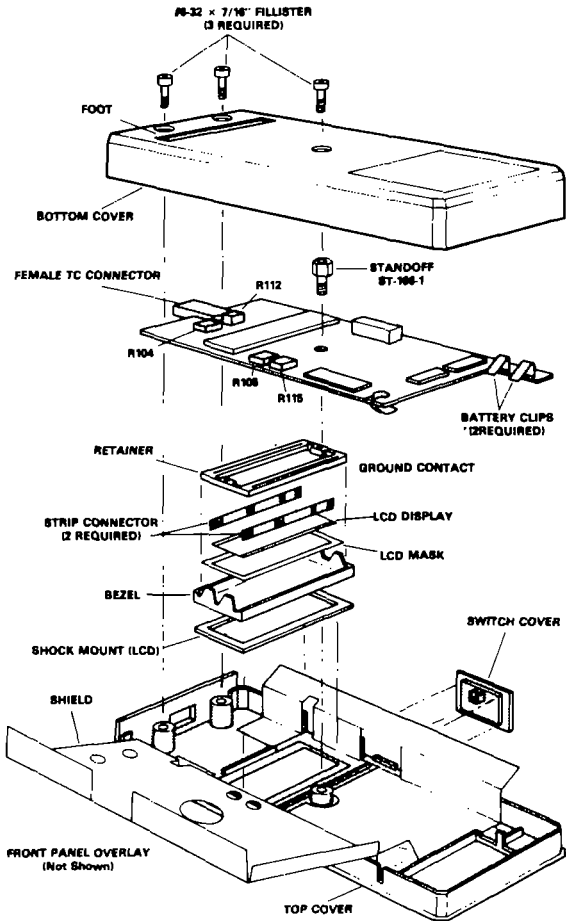

Figure 3. Model 873 Exploded View
8. The LCD is held in place on the PC board by a shock resistant mounting and is assembled as shown in Figure 3.